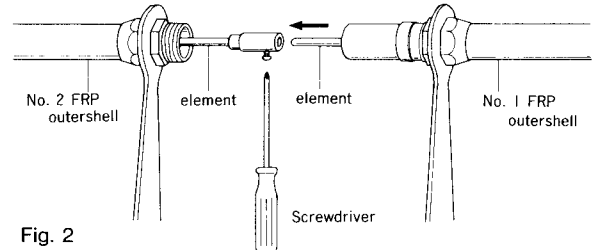

Fig. 2
- 2) Connect elements in No. 1 and No. 2 FRP outershells with a screwdriver as shown in Fig. 2.